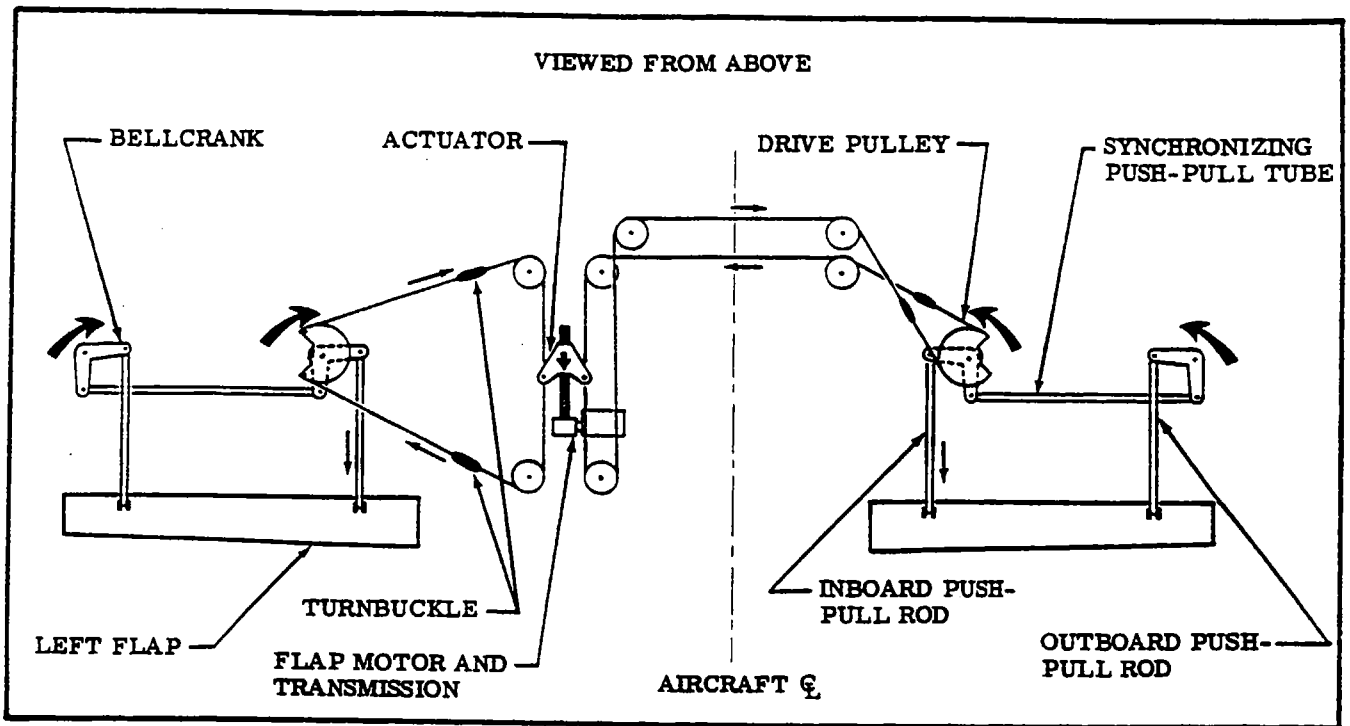

Figure 7-3. Flap System Schematic
- c. Disconnect inboard push-pull rods (17) at drive pulleys (11).
- d. Disconnect outboard push-pull rods (23) at bellcranks (21).
- e. Disconnect synchronizing push-pull tubes (13) from drive pulleys (11) and bellcranks (21).
- f. If cables are being replaced with drive pulleys (11) installed, rotate drive pulleys beyond their normal range of travel to permit cable attachment. If drive pulleys are not installed, it may be easier to attach the cables prior to installing the drive pulleys in the wings.
- g. Attach the 1/8" direct cable to the forward side of drive pulleys and the 3/32" retract cable to the aft side of drive pulleys. (Refer to figure 7-3.)
- h. Adjust synchronizing push-pull tubes (13) to 41.87" between centers of rod end holes, tighten jamnuts and install.
- i. Adjust inboard push-pull rods (17) to 10.81" and outboard push-pull rods (23) to 10.39" between centers of rod end holes, tighten jamnuts, and install. These dimensions may vary in order to obtain snug fitting of flap in "UP" position.